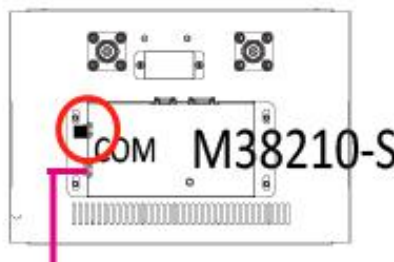

Figure 4-12 Terminal resistance in the top battery of each cluster
B. Take the terminal resistance in the HV900105 and insert it into the top battery COM port of each battery cluster. You can see the detailed information Figure 4-12.